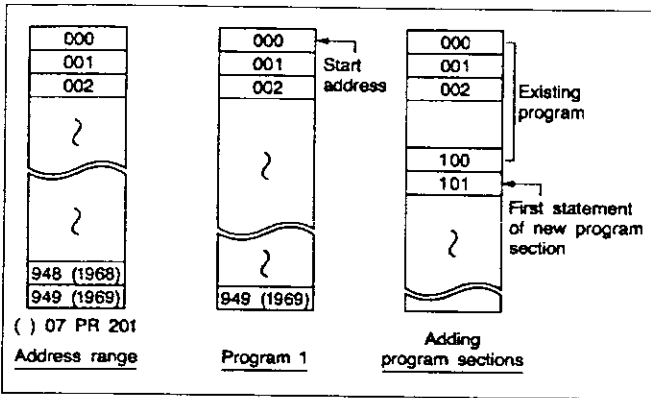

Figure 14.11
- Program sections which are added always start at the first free address of the user program memory (see figure 14.11).